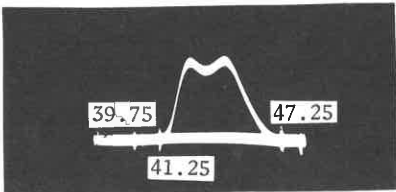

FIG. 1
47.25MC	Adjust T102 and R102 for MINIMUM. Fig. 1